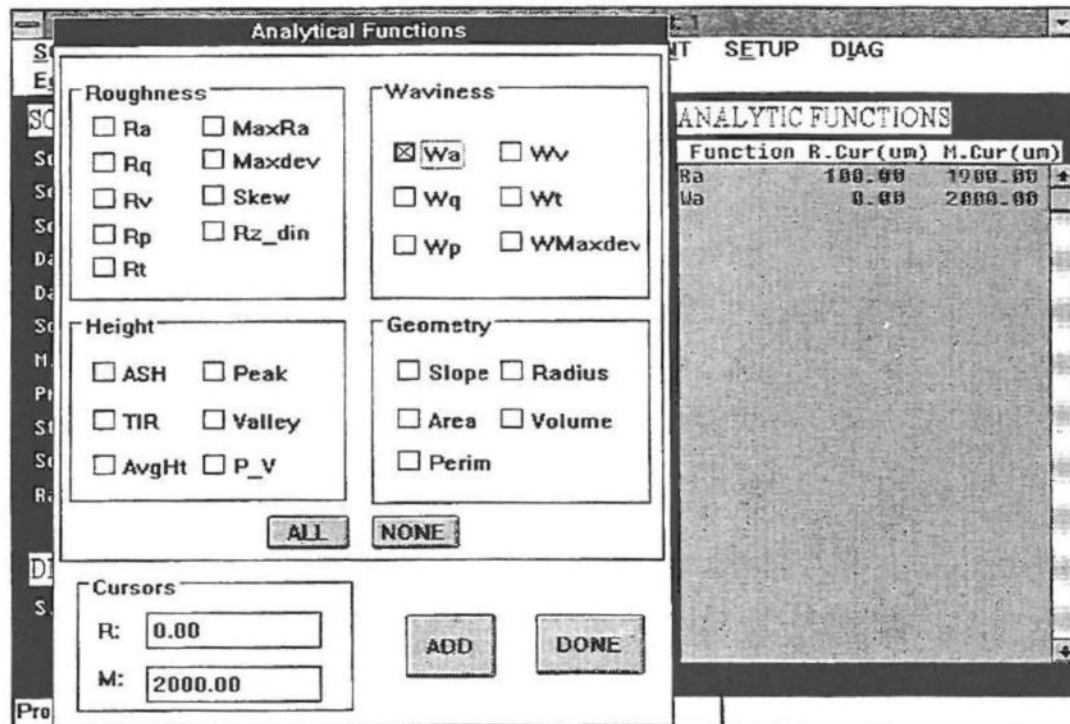

Figure 6 - 7 Analytical Functions/Scan Routine Screen Entry
5. Click on OK. The WA function will be entered into the area on the right of the Scan Routines screen labeled Analytic Functions (see Figure 6 - 7).
1. Click on the data processing parameter labeled Filter Cutoffs from the Scan Routine Screen. The data processing parameters window displayed (see Figure 6 - 8)